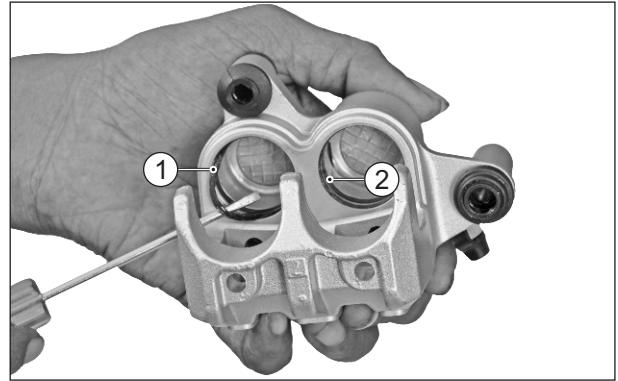

Fig. 6.29
- Remove the dust seals 1 and 2 with a bent plastic / brass tool to avoid scratches in the caliper bore. (Fig. 6.29)